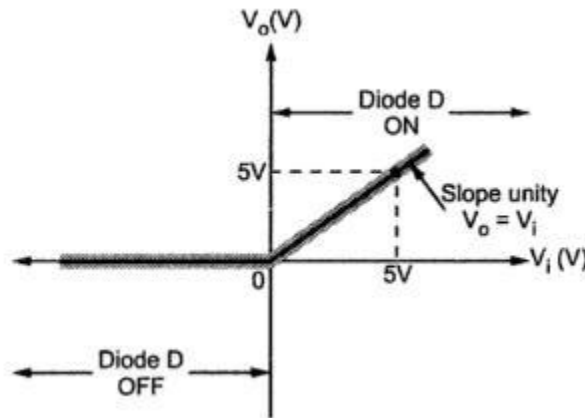

Fig. 1.46 Transfer characteristics with Ideal diode
- The graph showing above mathematical relationship is shown in the Fig. 1.46